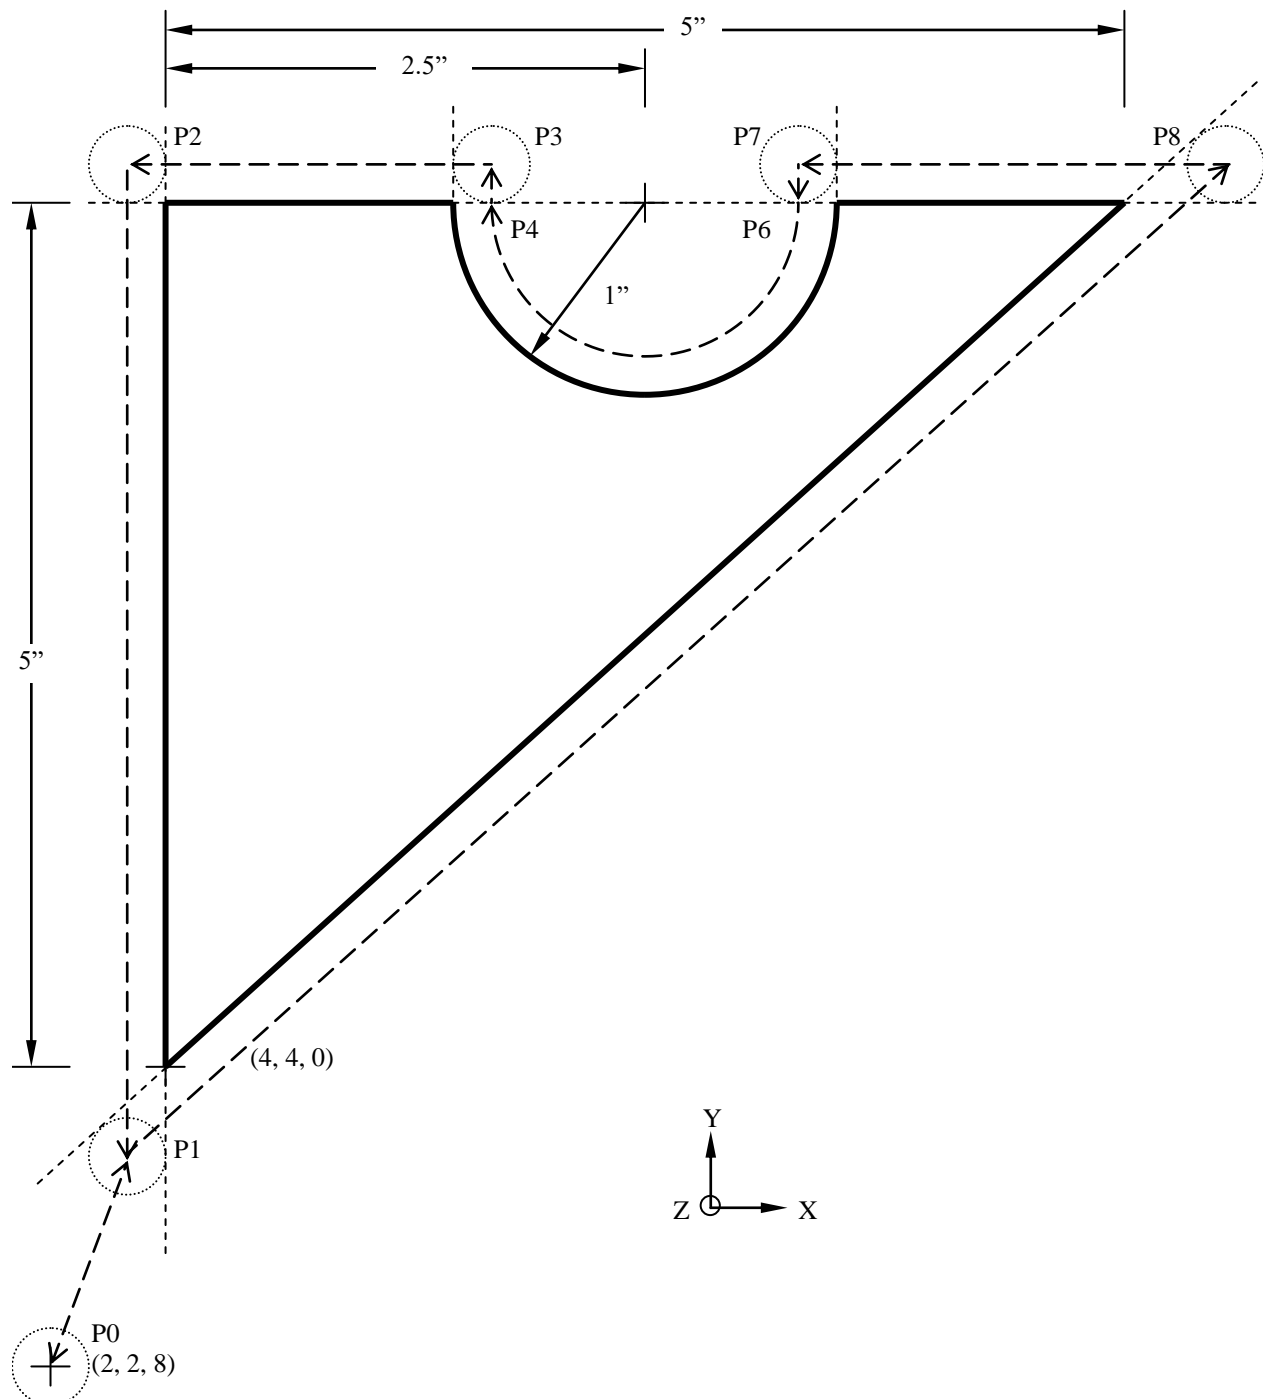

Figure 1. Workpiece for NC machining.
The following workpiece is to have a finishing pass around its periphery (see NC Programming Notes, Figure 1).
1. Set up and create an NC program that profiles the part in Figure 1 in a counter-clockwise direction: (a) using full circle interpolation (i.e. use the points indicated, above); and (b) utilizes a coolant to flush chips from the surfaces.